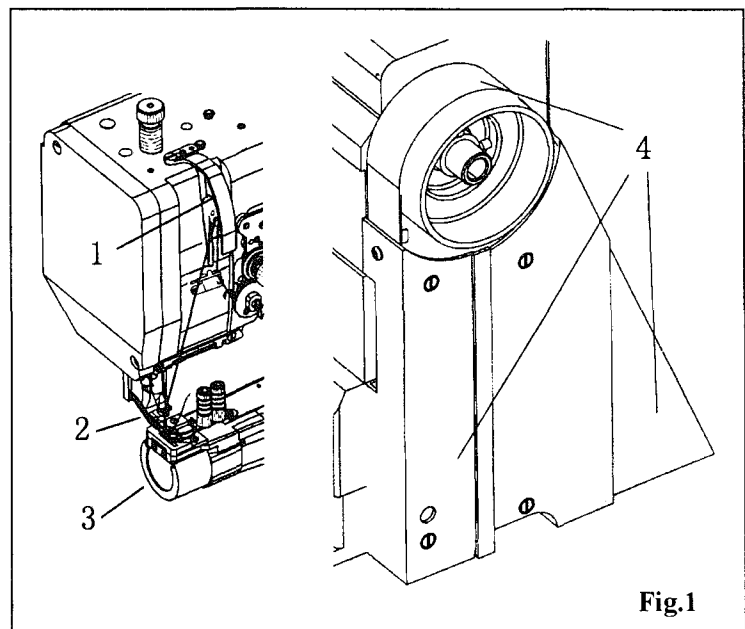

Fig.1
- ① To follow safety guidelines in the instruction manual
- ② Before beginning maintenance work the main switch must be switched off and it must be ensured that it will not be switched on again.
- ③ Working on active parts and equipment is not permitted.
- ④ After repair and maintenance work the protective covering must be put back and the electric control box must be closed.
4) DANGER TIPS (Fig.1)
① During operation a space of 1m in front of and behind the machine should be maintained so that unrestricted access is possible.
② During sewing do not reach into the needle area! Be careful of the danger of injury from the needle.
③ During operation do not leave objects lying on the table or in the needle plate tongue. Objects can get jammed or knocked away. Danger of injury will result.
④ With mechanically operated clutch motors without operation barriers, operators should wait for the motor to stop. Danger of injury will result.
⑤ Do not use the machine without the thread take-up cover 1! Danger of injury from the movement of the threaded will result.
⑥ Do not use the machine without the finger guard 2! Danger of injury from the outward and upward movement of the needle will result.
⑦ Do not use the machine without the lifting arm cap 3!